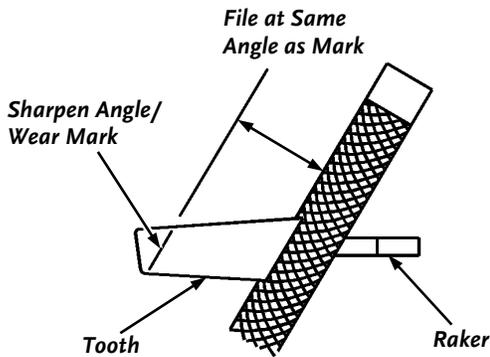
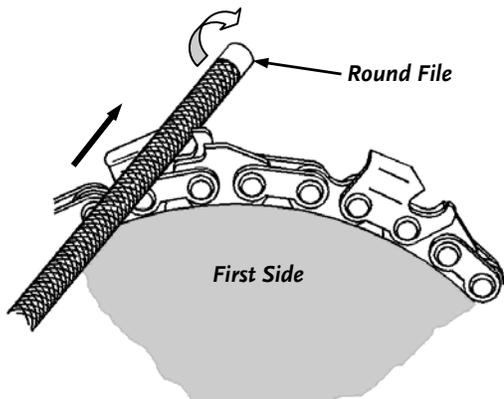

Figure 7
Figure 8
3. While holding the beaver blade in a standing (vertical) position, Place the round file into the tooth at the same angle as the cutting edge of the tooth (**Figure 7**). Lightly push the file across the cutting edge and through the tooth, twisting the file a half turn with each stroke (**Figure 8**).